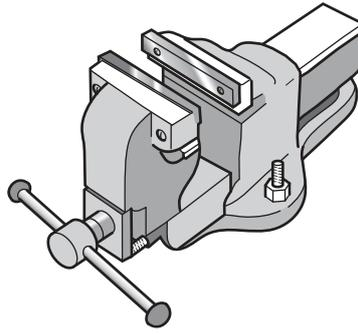

Fig. 13.4
- (iii) The engineer's vice shown in Fig.13.4 is used to hold the acrylic while it is being filed. There is a possibility of damaging the acrylic.